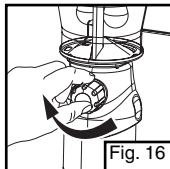

Fig. 16
- Turn fuel valve off. (Fig. 16)